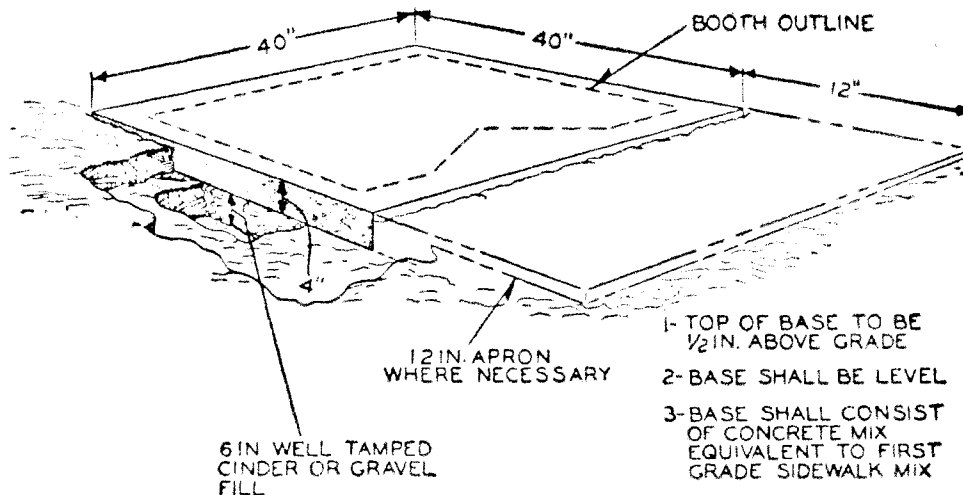

Fig. 1—Poured Cement Base
(d) Arrange for a concrete base where required (see Fig. 1). No special foundation is necessary when the KS-14611, List 2 booth is installed indoors, on concrete pavement or platforms on porches or floors that are a permanent part of the building.
4.03 The booth shall be mounted on a poured concrete base, a precast slab, or other suitable level base. Where a stepdown is required, a 12-inch apron should be provided. For concrete slab and apron construction, see Fig. 1. Larger slabs should be used in areas subject to high wind velocities, as recommended by local instructions. The larger slab should be generally 48 inches square by 4 inches deep.